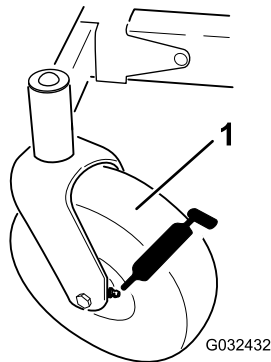
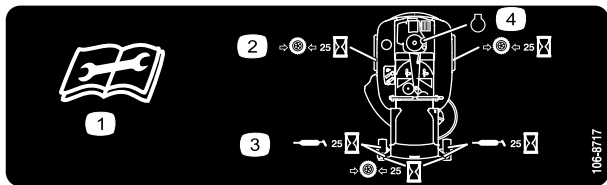

Figure 33
Figure 34
3. Clean the grease fittings (Figure 33 and Figure 34) with a rag.
4. Connect a grease gun to each fitting (Figure 33 and Figure 34).